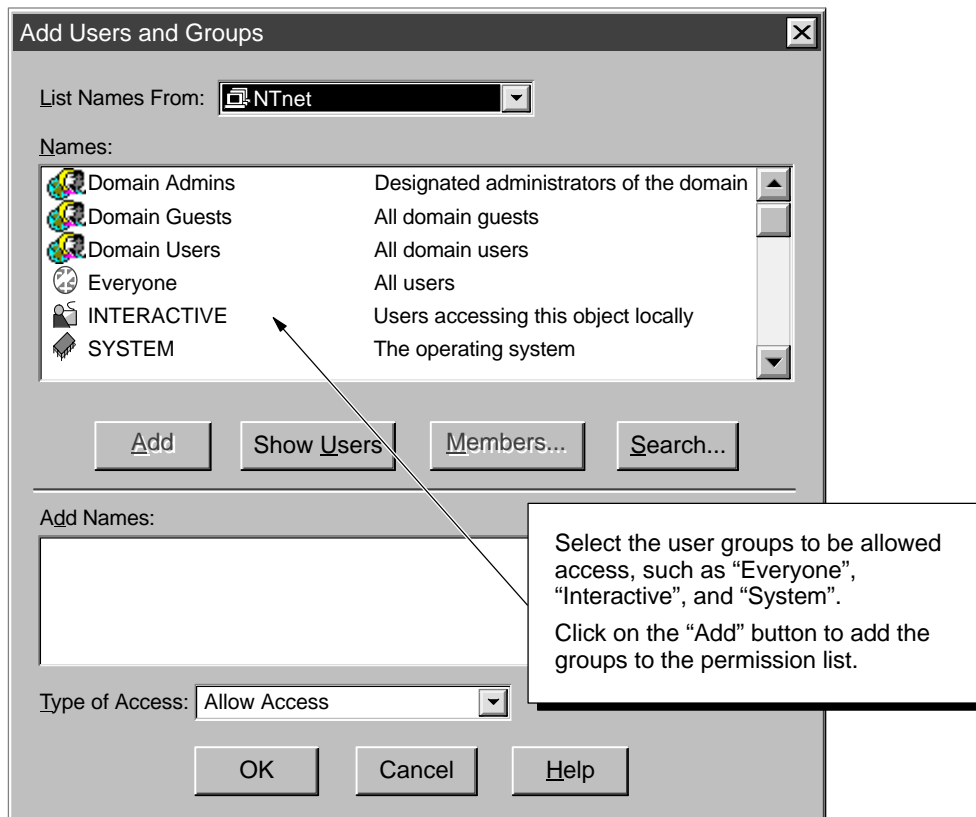

Figure E-16 Changing the Access Permissions for Users or Groups
3. Click on the “Add” button to display the “Add Users and Groups” dialog box and change the security settings for access to the server. See Figure E-16.